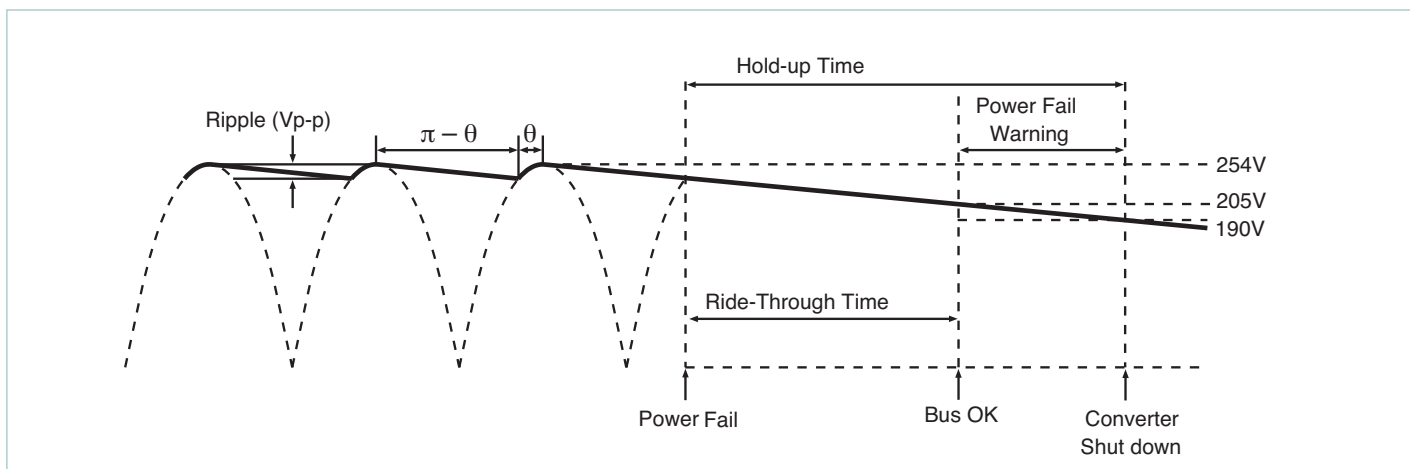

Figure 15 — Hold-up time
Hold-up capacitor values should be determined according to output bus voltage ripple, power fail hold-up time, and ride-through time (see Figure 15). Many applications require the power supply to maintain output regulation during a momentary power failure of specified duration, i.e., the converters must hold-up or ride through such an event while maintaining undisturbed output voltage regulation. Similarly, many of these same systems require notification of an impending power failure in order to allow time to perform an orderly shutdown.
The power fail warning time (Δt) is defined as the interval between BOK and converter shutdown (EN) as illustrated in Figure 15. The Bus-OK and Enable thresholds are 205V and 190V, respectively. A simplified relationship between power fail warning time, operating power, and bus capacitance is obtained by inserting these constants in Equation (3):
Equation 3 is again used to determine the required capacitance. In this case, V1 and V2 are the instantaneous values of bus voltage at the peaks and valleys (see Figure 15) of the ripple, respectively. The capacitors must hold up the bus voltage for the time interval (Δt) between peaks of the rectified line as given by: